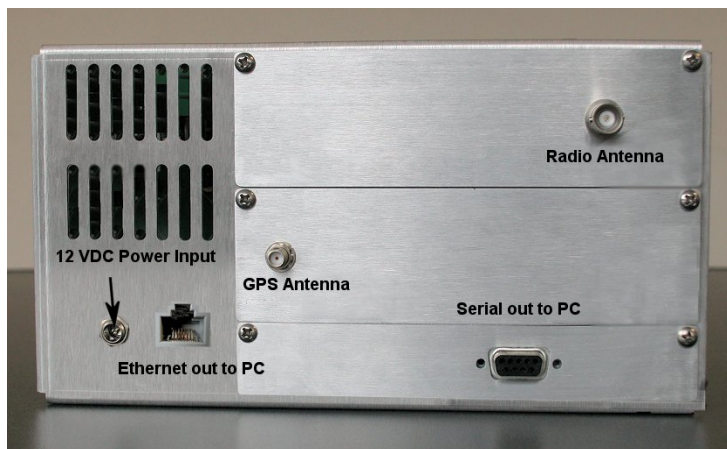

Figure 2 – Back of Receiver/Display Box
1. Connect the external GPS and radio antenna to the appropriate connectors on the back of display box. (See Fig. 2)